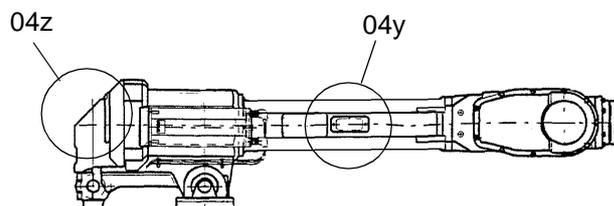
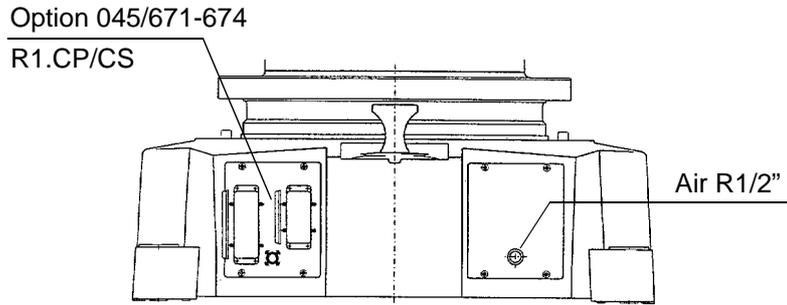
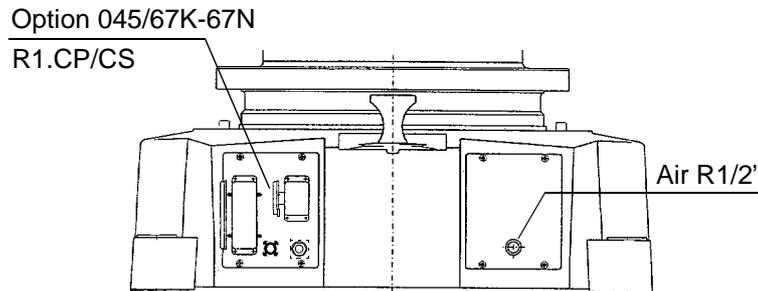
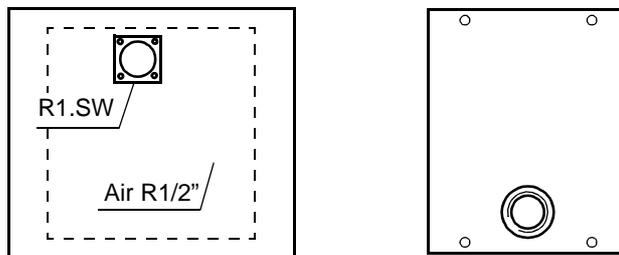

Figure 36 Connection of signals on the upper arm.
Figure 37 Option 04y, connection of signals and air to the base.
Figure 38 Option 04z, connection of signals and air to the base.
Figure 41 Connection of position switch cable to the base.
04y Integrated hose for compressed air. There is an inlet at the base (see Figure 37) and an outlet on the upper arm (see Figure 36). Connections: R1/2”.
04z Integrated hose for compressed air. There is an inlet at the base (see Figure 38) and an outlet on the upper arm (see Figure 36). Connections: R1/2”.
045 The signals are connected directly to the robot base to one Harting 40-pin connector (see Figure 37 and Figure 38). The cables from the manipulator base are not supplied.
- 071-** The signals are connected to 12-pole screw terminals, Phoenix MSTB 2.5/12-ST-5.08, in the controller (see Figure 46). The cable between the manipulator base R1.SW (see Figure 41 and Figure 38) and the controller, is included. The cable length is the same as in option 640.